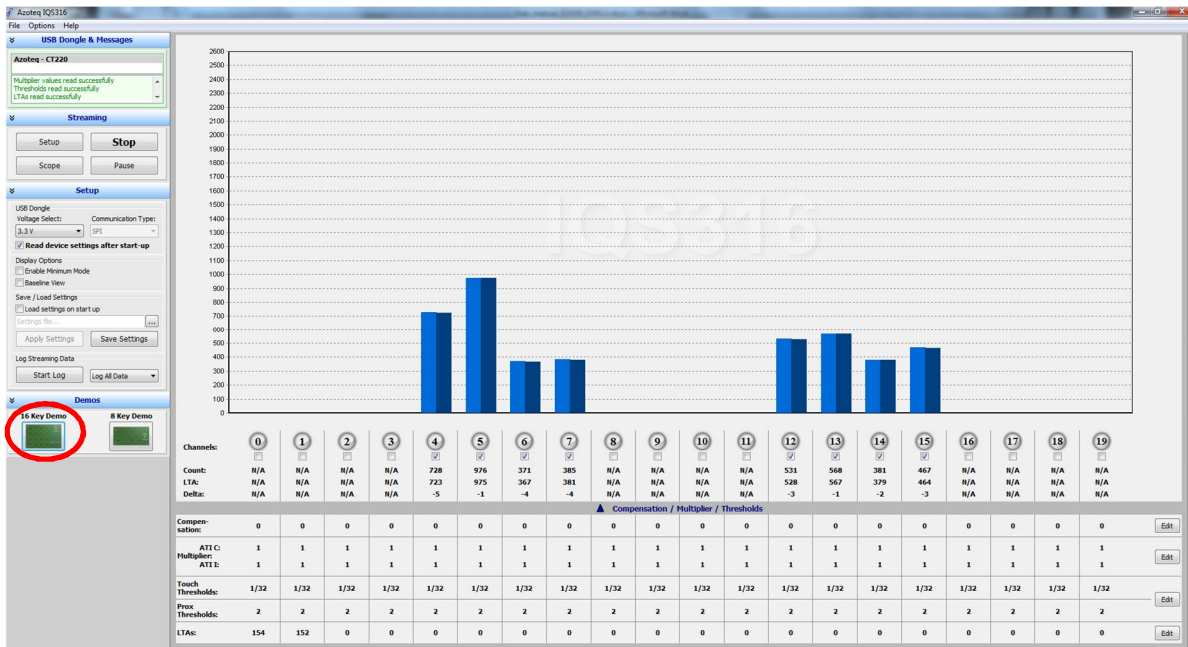

Figure 5.2 Start-up Screen for the IQS316 GUI
- To enter the 16-Key Demo mode, click on “16 Key Demo” in the lower left-hand corner of the IQS316 GUI start-up screen, as indicated in Figure 5.2.